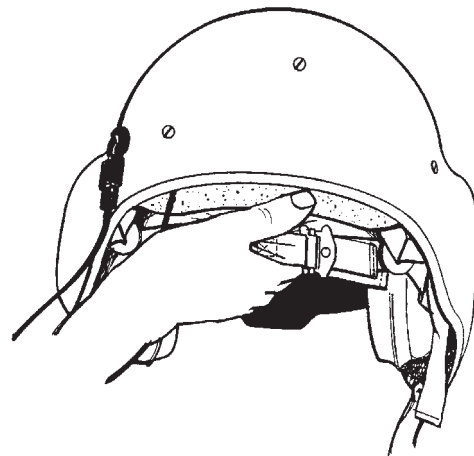

Figure 2-24. Holding TPL and Nape Strap Pad
12. Have wearer hook thumbs in earcups and spread helmet. Place front of helmet against the FRP. Referring to Figure 2-24, hold the edge of TPL and nape strap pad with hand and pull down. Have wearer don helmet and rotate helmet rearward.